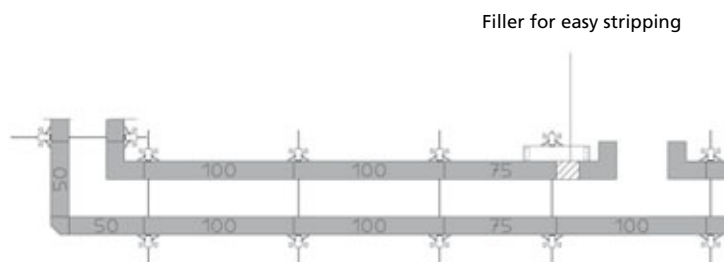

Fig. 43.3
■ Walls of less than 6 m require a filler for easy stripping (Fig. 43.3) as otherwise the formwork may wedge when stripping and stick to the concrete.
Do not start stripping before the concrete has set to the point where it cannot deform anymore. It is best to start stripping at the stop ends or at a corner. Walls of less than 6 m require a filler for easy stripping at the inside formwork (Fig. 43.3 on page M350-43) as otherwise the formwork may wedge and stick to the concrete. Start stripping with the inside formwork. Stripping of both the outside and inside formwork is done as follows: